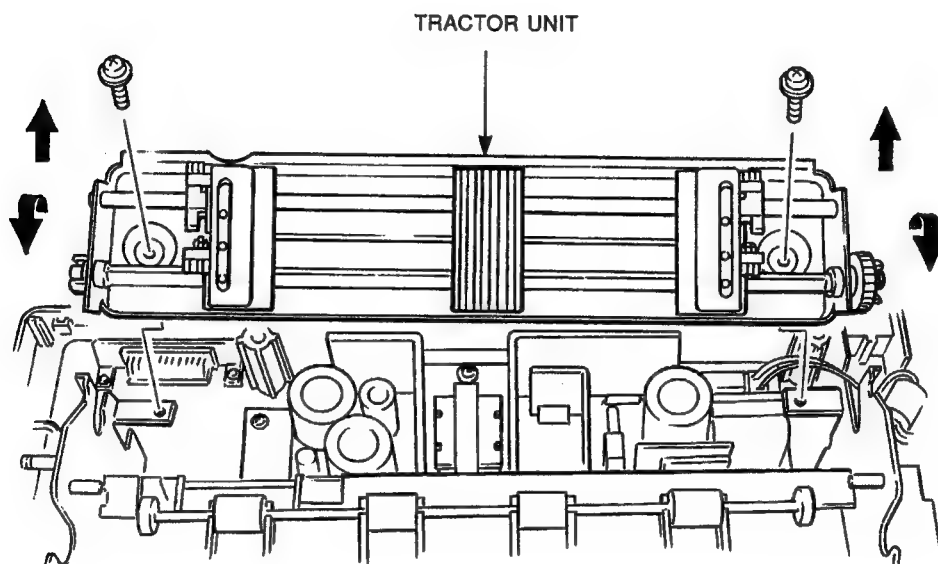

Figure 3-57 Tractor Unit Mounting Screws
1. Remove the two screws securing the tractor frame to the left and right side frames (see Figure 3-57).
2. Turn the tractor unit forward and lift it out of the mechanism unit (see Figure 3-57).